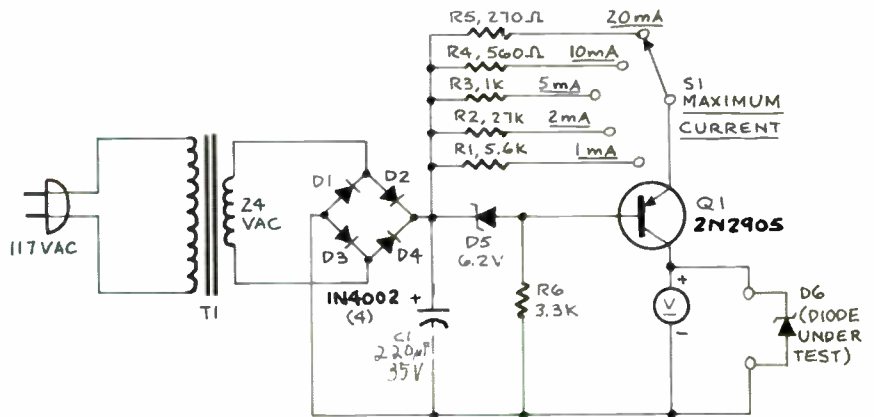

FIG. 3
I'd like to point out that a 2" x 3" circuit board, with the circuit shown in of Fig. 3 of that article is available through Celtic Industries, Inc., 14654 Keswick St., Van Nuys, CA 91405 (818) 787-3615.
A more versatile circuit is shown in Fig. 3. That circuit works only with Zener diodes rated at less than about 25 volts. The circuit works by using a 2N2905 PNP transistor as a constant-current generator whose output impedance is determined by feedback current through the emitter resistor selected by switch S1. That current flows through the diode under test; the voltmeter indicates V_z .